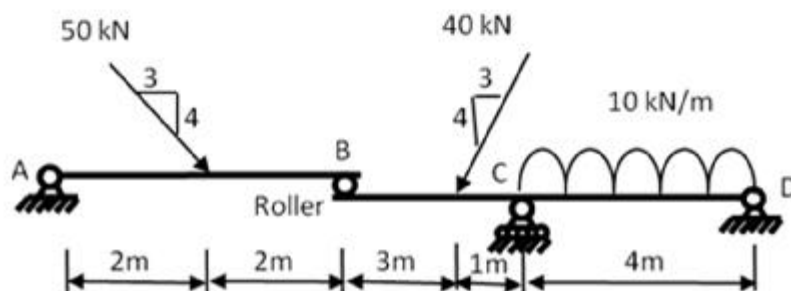

Figure Q.15
15. Determine the magnitude of the vertical support reaction at D for the structure shown in **Figure Q.15**.